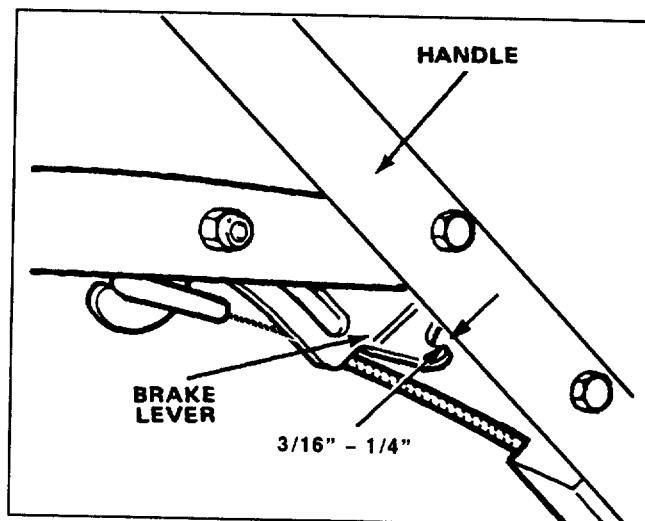

Figure 30
2. CHECK ADJUSTMENT (Fig. 30)—Move control bar toward handle until slack in wire is removed. Gap between brake lever and handle must be $3/16'' - 1/4''$. See step 3 for adjustment.
3. ADJUST CABLE CONDUIT (Fig. 30)—Loosen nut on cable bracket. Insert $3/16'' - 1/4''$ object between brake lever and handle. Pull down on cable conduit until all slack is removed from wire. Then tighten nut.